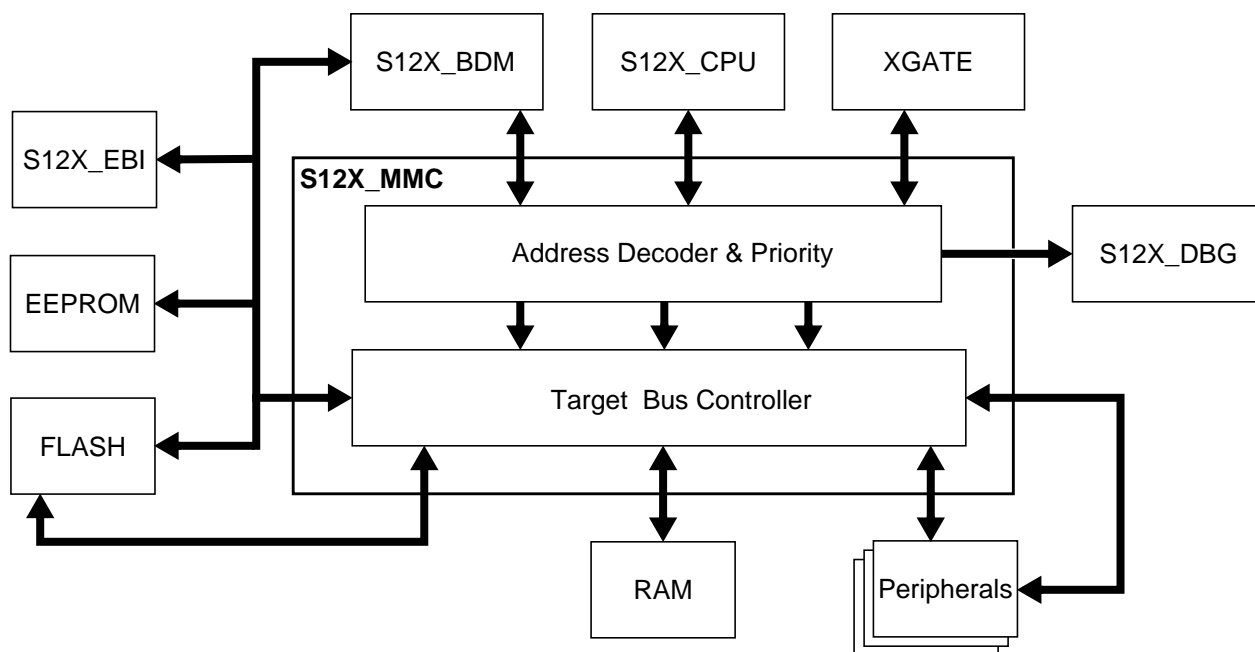

Figure 1-1 S12X_MMC Block Diagram
This section describes the functionality of the Module Mapping Control (S12X_MMC) sub-block of the S12X Platform. The block diagram of the S12X_MMC is shown in Figure 1-1.
- Simultaneous accesses to different resources¹ (internal, external and peripherals). (See Figure 1-1)